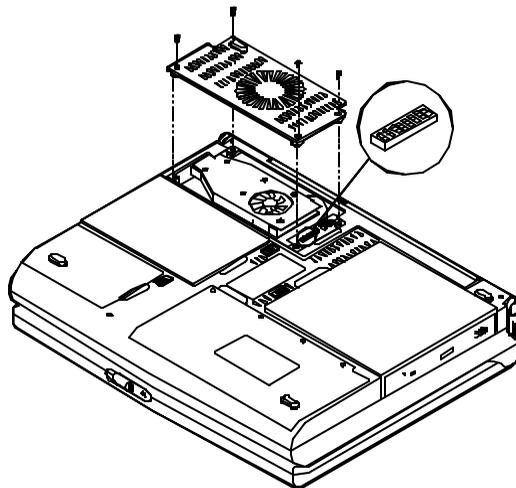

Figure 2-6
3. Remove the CPU cover. Locate the 8-pole DIP Switch to set the configuration (Figure 2-6).